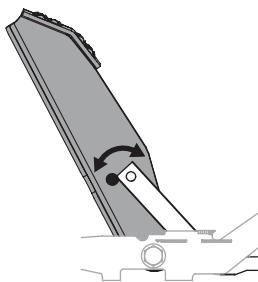

Figure 34
3. Position the pedal to the optimal position based on operator preference (Figure 34).